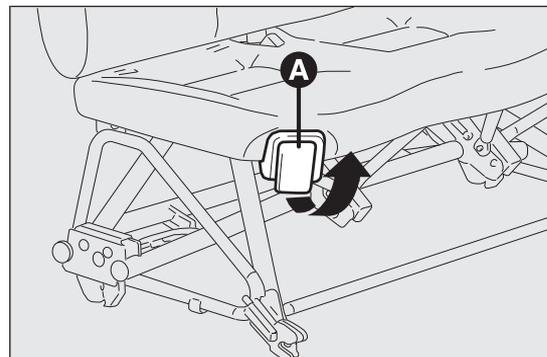
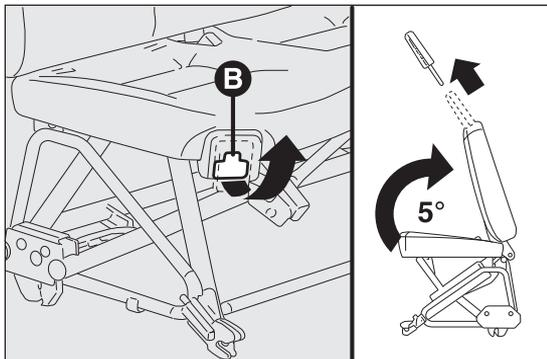

fig. 35
fig. 36
Raise lever A fig. 35 and tilt the backrest forwards.
- raise lever B fig. 36 (located under lever A fig. 35) with your right hand;